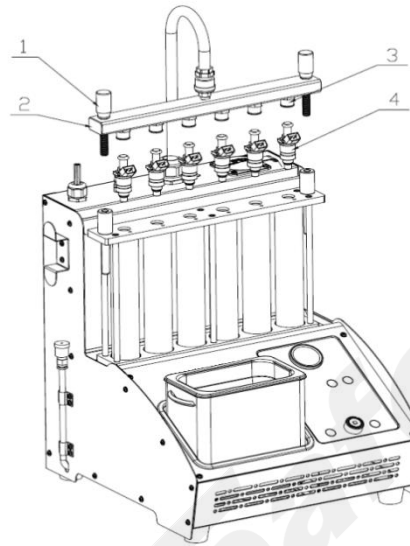

Figure 5.1
- 3) Adjust the screws to fix the fuel distributor and injector assembly in the oil filler hole of the upper cover and tighten the compression screws on both sides evenly. The installation diagram is shown in Figure 5.1.